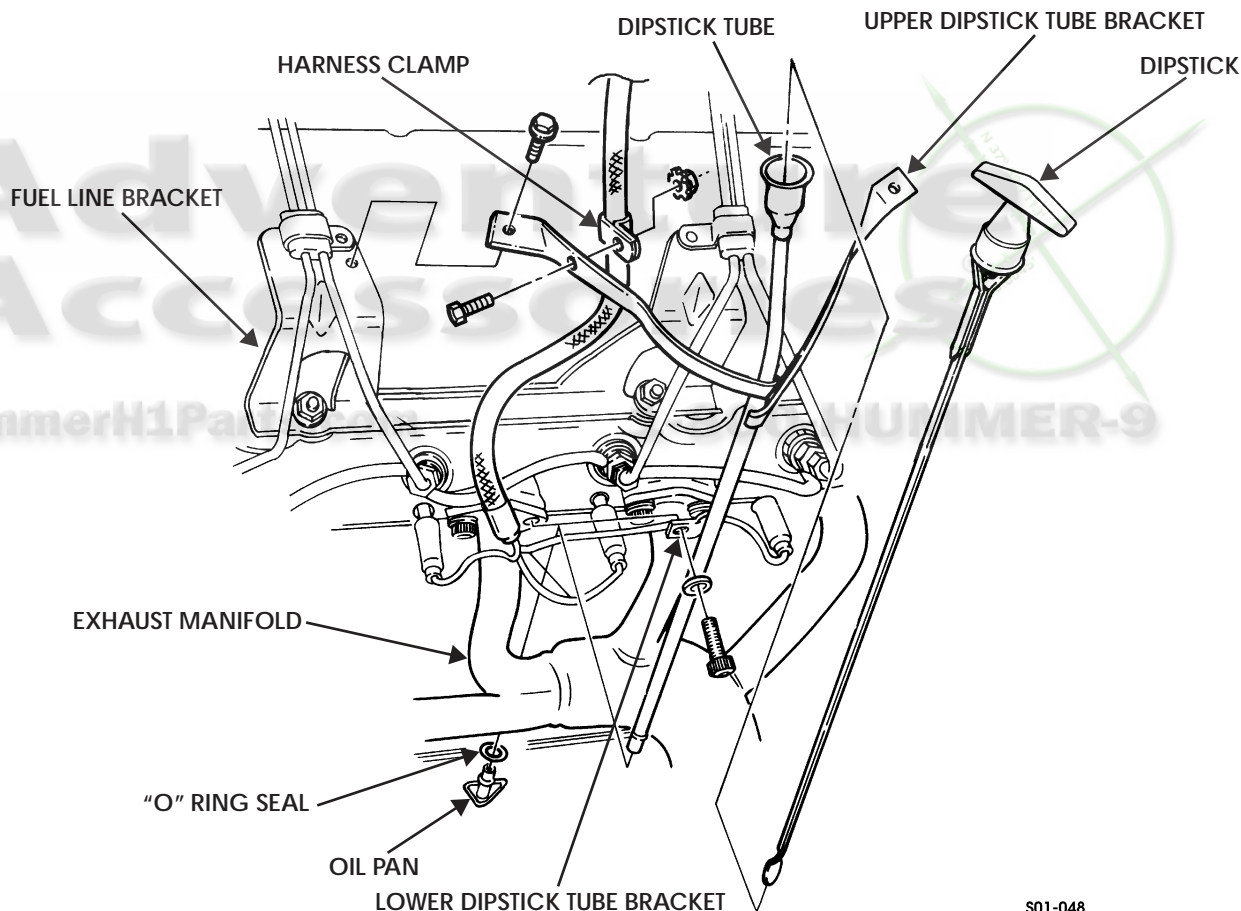

Figure 1-36: Engine Oil Dipstick Tube
1. Remove dipstick from dipstick tube (Figure 1-36).
1. Apply silicone sealant to O-ring seal, and install O-ring seal on dipstick tube (Figure 1-36).